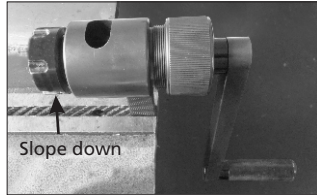

Fig.1-8
8. Clamp the coning tool in a jaw vise and slope down the collet slightly. (Fig.1-8)